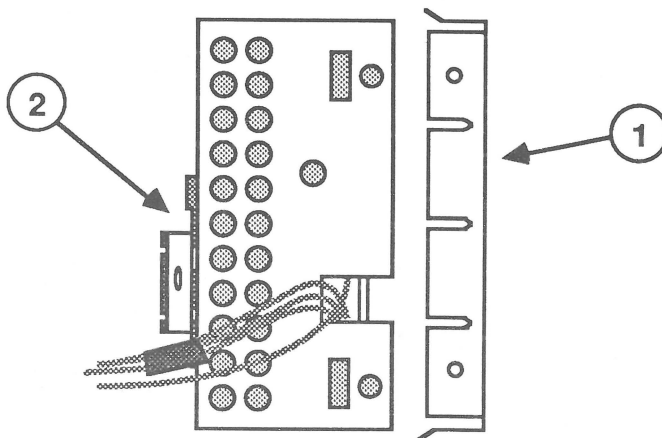

FIGURE 11
4. Pull off and set aside the back of the metal box that holds the video board "C" (Figure 11, #1).
8. Carefully support the neck of the CRT by holding the video board from underneath. Then loosen the metal clamp that holds video board "C" to the CRT neck by loosening the screw part way (Figure 11, #2).